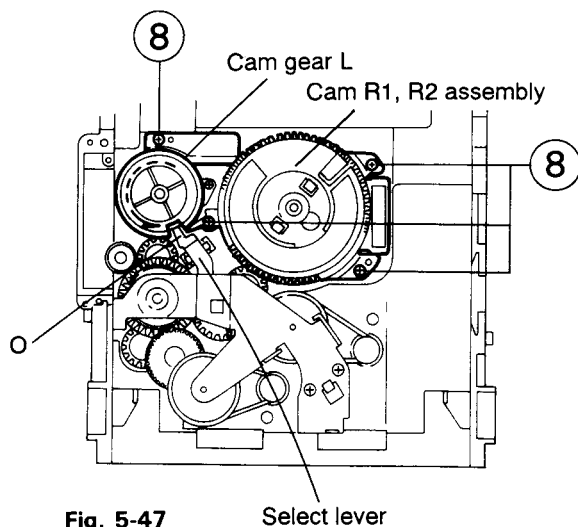

Fig. 5-47
4. While turning the cam gear L, align the pawl (O) position of the select lever to the notch position (Fig. 5-47) on the cam gear L.
5. Remove the four screws (8) retaining the cam unit (cam gear L and cams R1/R2 assembly) (See Fig. 5-47).